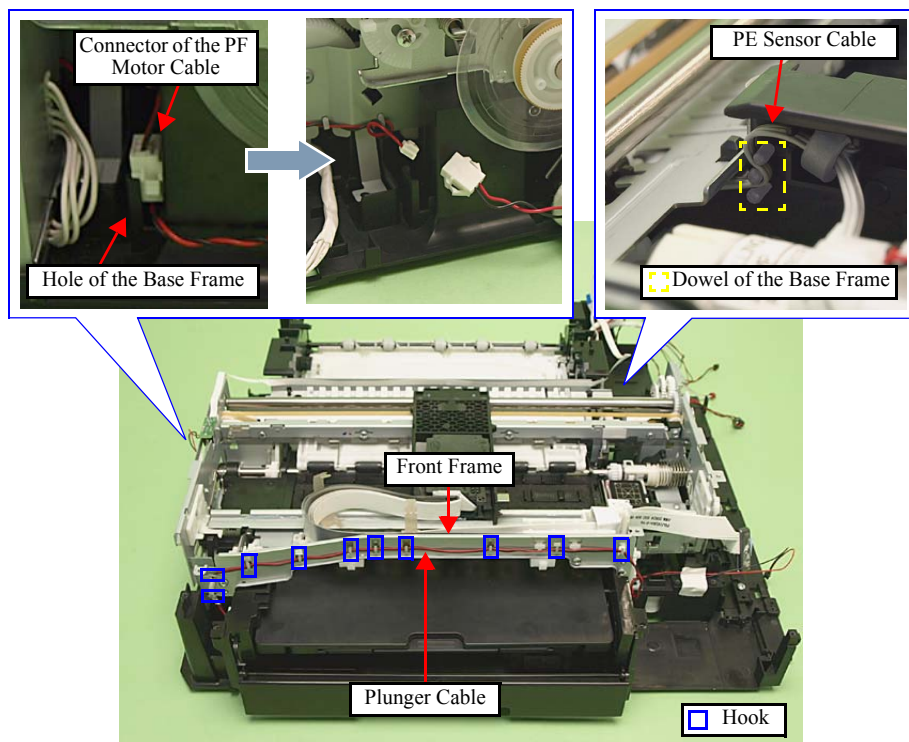

Figure 4-105. Removing the Main Frame (1)
1. Release the Plunger cable from the hooks (x10) of the Front Frame. (See Fig. 4-105.)
2. Release the PE Sensor cable from the dowel of the Base Frame. (See Fig. 4-105.)
3. Detach the relay connector of the PE Motor cable from the hole of the Base Frame, and disconnect the connector. (See Fig. 4-105.)